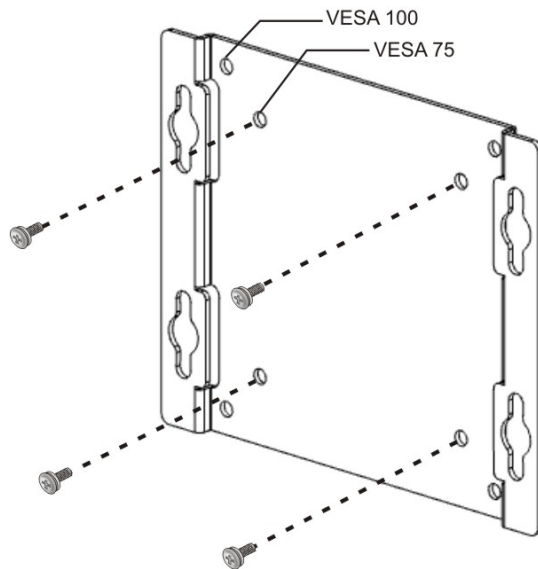

Figure 3–15: Attach Mounting Bracket
Step 1: Attach the mounting bracket to a VESA 75/100 mounting surface with four screws. Make sure it is attached securely. See **Figure 3–15**.
Step 2: Screw the included mounting screws (M4*6) to the mounting holes on the bottom of the IDS-310-AL (**Figure 3–16**).
Step 3: Hook the IDS-310-AL into the mounting holes on the mounting bracket (**Figure 3–16**).